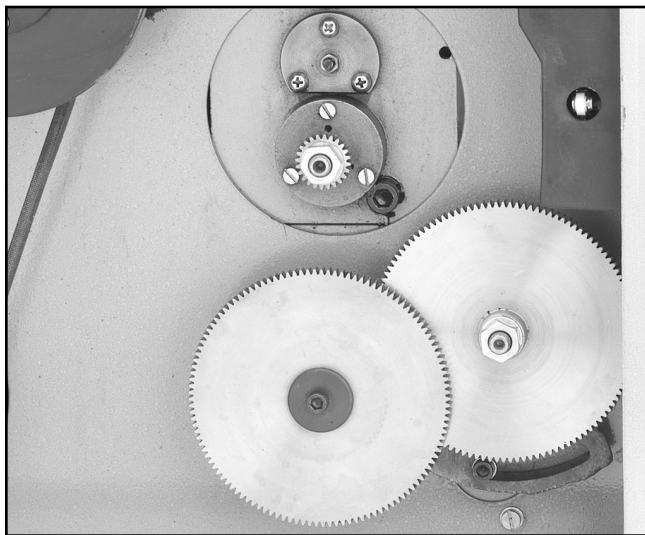

Figure 39. Swing gears in lower position.
3. Loosen the cap screw at the bottom of the gear support arm and allow the arm to rotate downward as in **Figure 39**.